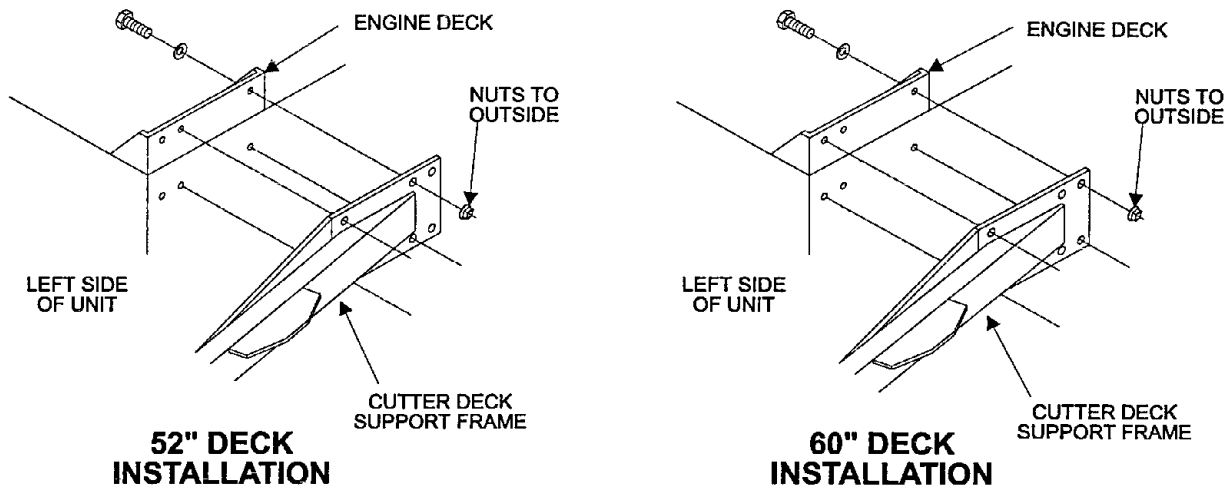

FIG. 1
- 3.3.3 Install cutter deck support frame to tractor engine deck and secure using (8) 3/8-16 x 1" screws, (8) disc spring washers and (8) whizlock nuts from bolt bag (See Figure 1).
NOTE: Make sure that the bolts are placed in the proper mounting holes in both frames. There are different mounting bolt locations for the 60" and 52" decks (See Figure 1).
- NOTE:** Place spring washer cone side against bolt head (cupped side away from head) and install to inside of engine deck (as shown in Figure 1). Install with whizlock nuts to the outside of the support frame. Tighten until spring washers are flat.